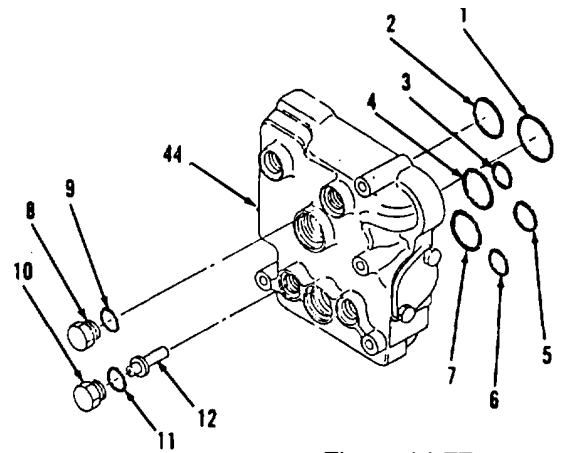
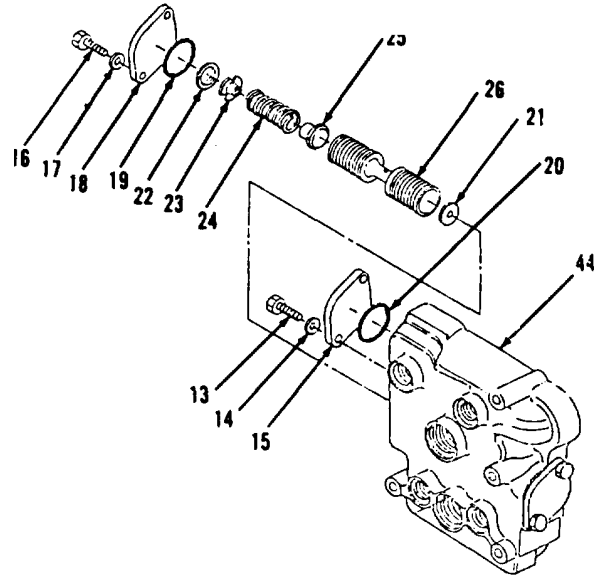
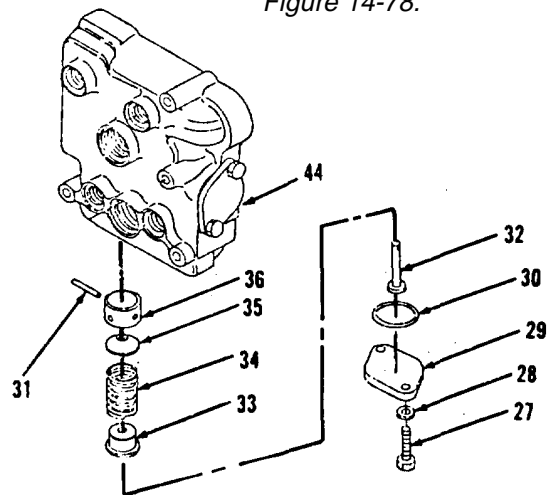

Figure 14-77.
Figure 14-78.
Figure 14-79.
1. Remove and discard preformed packings (1 thru 7) from back of control relief valve (44, Figure 14-77).
2. Remove plug (8) and preformed packing (9) from front of control relief valve (44). Discard preformed packing (9).
3. Remove plug (10), preformed packing (11) and pin (12). Discard preformed packing (11).
4. Remove two bolts (13), lock washers (14) and cover (15) from left side of control relief valve (44, Figure 14-78).
5. Remove two bolts (16), lock-washers (17) and cover (18).
7. Remove spacer (21) from relief valve (26).
8. Remove retaining ring (22), retainer (23), spring (24) and poppet (25).
9. Remove four bolts (27), lock-washers (28) and two covers (29) from bottom of control relief valve (44, Figure 14-79).
10. Remove and discard two preformed packings (30).